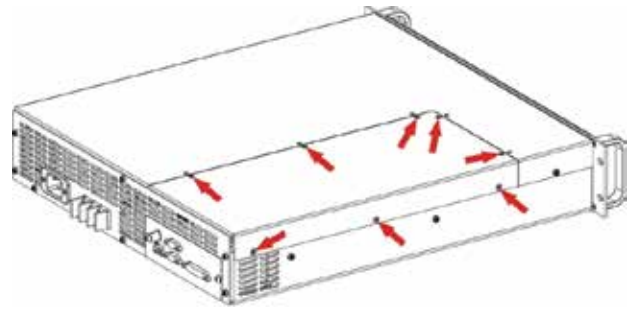

Figure B.2.36 – Access Panel Screw Locations
- A. On each Follower amplifier, locate the access panel as shown in **Figure B.2.36**.